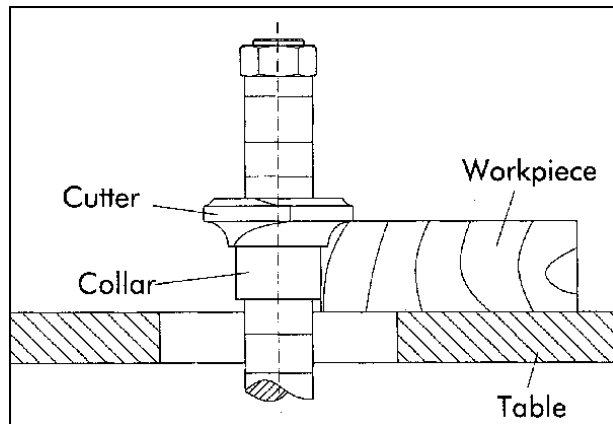

FIGURE 37
1. When the collar is used below the cutter, as shown in Figure 37, the progress of the cut can be seen throughout the operation. However, any accidental lifting of the work will gouge the wood and ruin the workpiece.